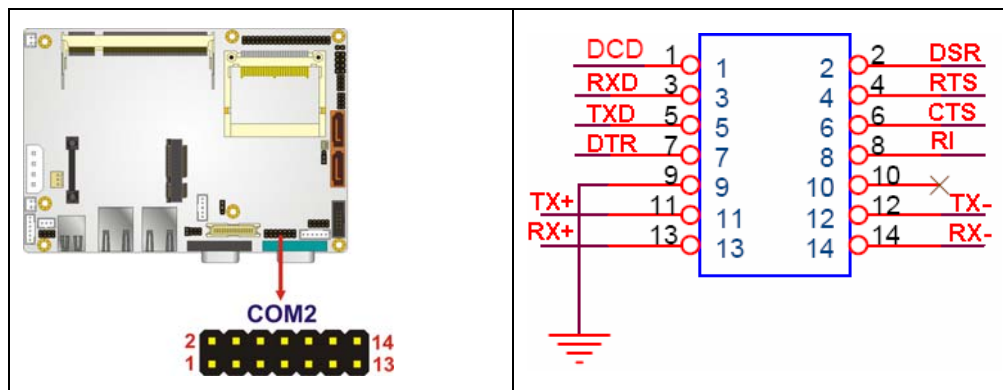

Figure 3-12: Serial Port Connector Location
- CN Location:** See **Figure 3-12**